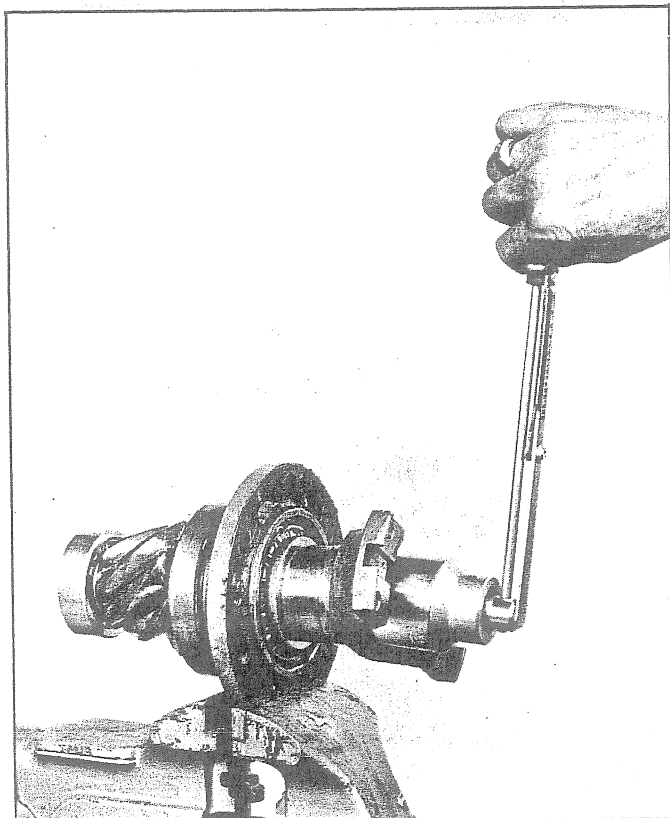

Fig. 59 - Checking Rolling Torque of Pinion Bearings
7. Place bearing cage in a vise. Use an inch lb. torque wrench and check bearing preload. See Fig. 59. The rolling torque of the pinion shaft should be 13 to 23 inch-lbs. If the bearing preload is not within these specifications, disassemble parts and add shims to de-